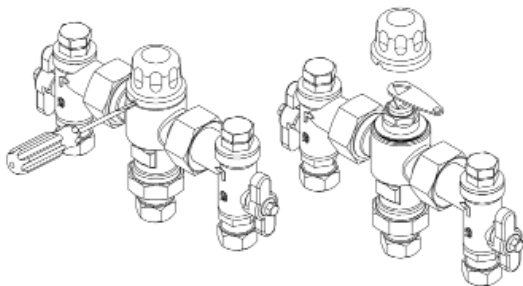

Figure 2.2 Increasing and Decreasing the Mixed Water Temperature
2. Fit the supplied key over the adjusting spindle (figure 2.2)